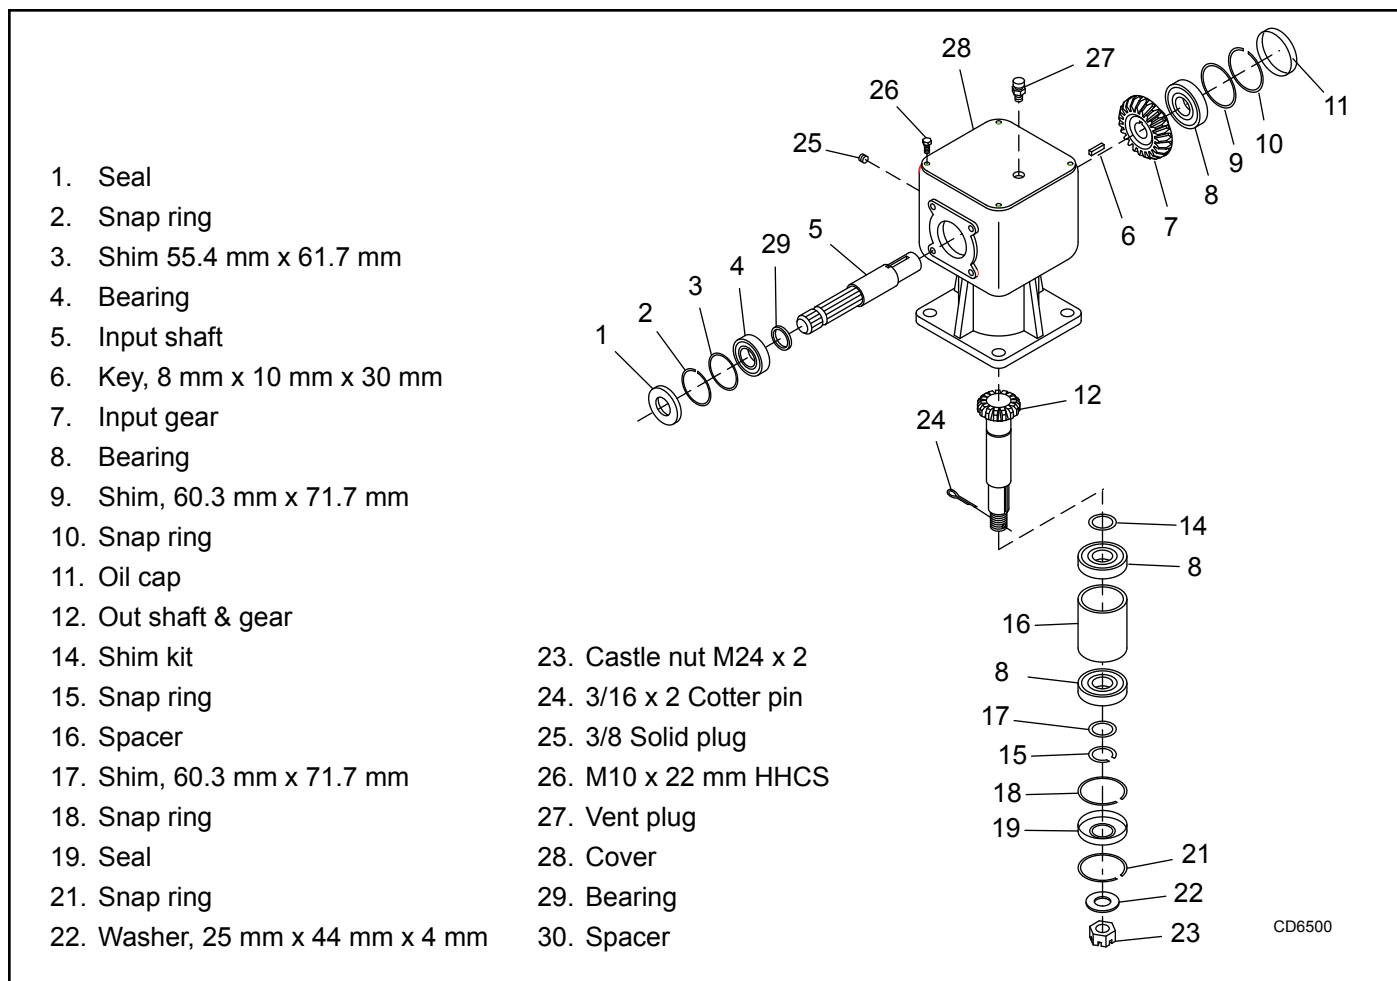

Figure 19. Deck Gearbox Assembly
2. Remove vent plug (13) and siphon gear lube from housing through this opening. See Figure 19.
3. Remove cap screws (12) and washers (11) to remove drive shield (10) from gearbox.
7. Remove flange lock nuts (7) and carriage bolts (8) from gearbox mounting. Remove gearbox from mower by lifting gearbox up and sliding toward the front of the mower.
8. Remove cotter pin (6), castle nut (5), washer (4), and sleeve (9) from gearbox output shaft.
9. Remove drive sheave (2) and key (3) from gearbox output shaft.
Refer to Figure 19.
1. Remove top cover (28), Figure 19, from housing. Turn gearbox upside down and pour out remaining gear oil from gearbox.
2. Remove oil cap (11) (to be replaced).
3. Remove snap ring (10) and shim (9) from input shaft (5).
4. Support gearbox in hand press and push on input shaft (5) to remove bearing (8).
5. Remove gear (7) from inside housing.
6. Remove oil seal (1) from front of housing (to be replaced).
7. Remove snap ring (2) and shim (3) from front of housing.
8. Remove input bearing (4) by using a punch and hammer from outside of housing.
10. The castle nut (23) and cotter pin (24) are already removed with the drive sheave. Remove the snap ring (18), washer (20), and seal (19).
11. Remove output shaft (12) and bearings by using a punch and hammer and tap on top to drive down.